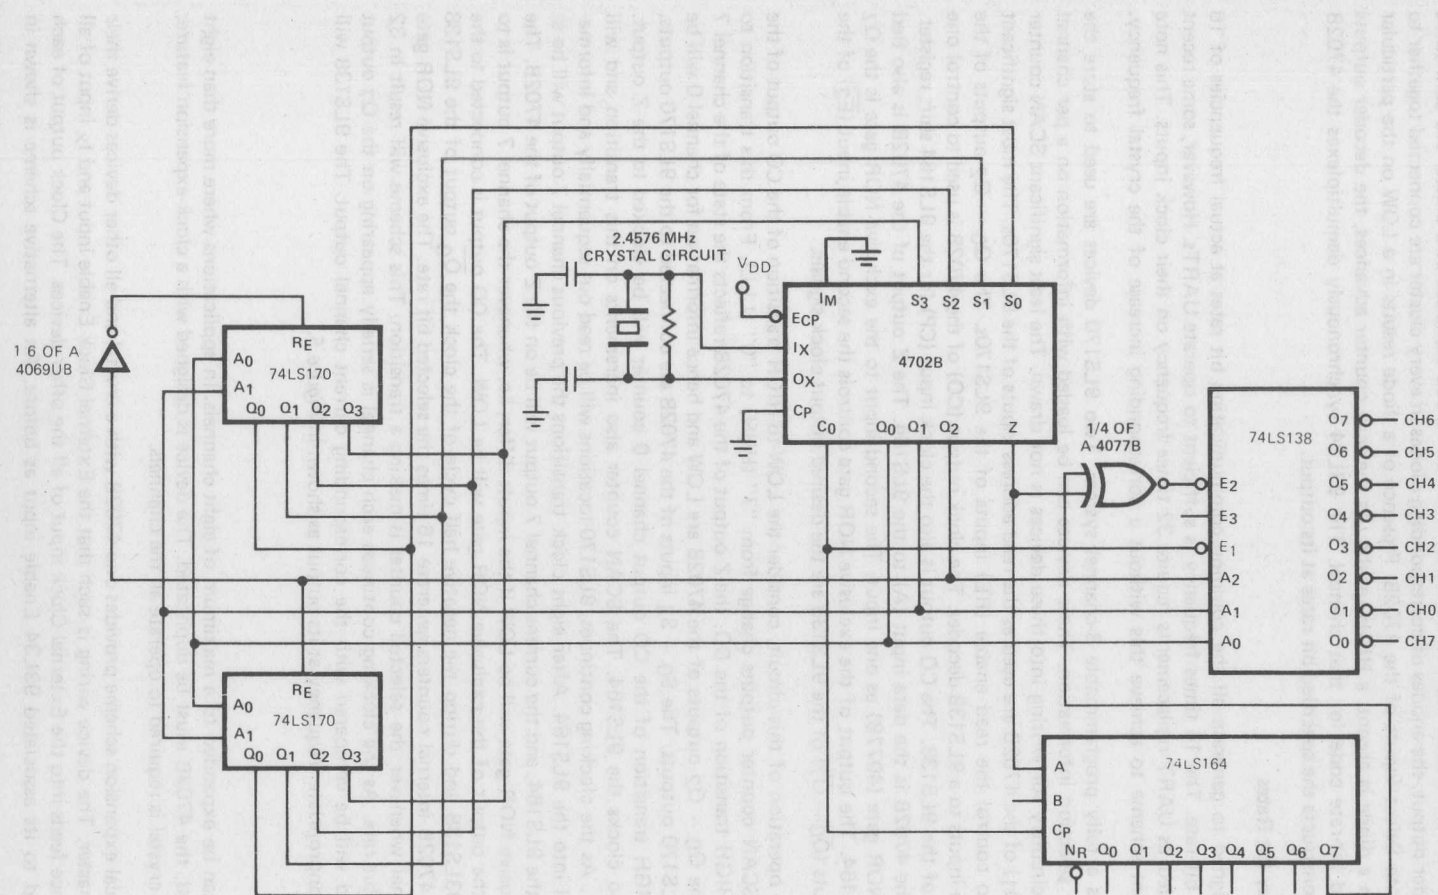

Fig. 5. A Fully Programmable 32 Times Frequency Bit Rate Generator System
Figure 5 illustrates a fully programmable 8-channel system. Two 9LS170 devices are used to store the channel frequency selection information. These devices can be loaded with information on a per channel basis. For clarity, circuitry for writing into these devices is not drawn. The least significant SCAN counter outputs (Q_0 and Q_1) of the 4702B are used as the read address inputs of the 9LS170s. The most significant bit (Q_2) is used to control the read enable (RE) inputs of the 9LS170s. The $Q_0 - Q_2$ outputs of the 4702B are also the inputs to a 9LS138 decoder. The clock output (CO) of the 4702B is used to control one enable input (\overline{E}_1) of the 9LS138. The CO output is also the clock input (CP) for the 9LS164 shift register. The Z output of the 4702B is the data input (A) to the 9LS164. The Z output of the 4702B is also tied into an exclusive NOR gate (4077B) as one input. The second input to the exclusive NOR gate is the Q_7 output of the 9LS164. The output of the exclusive NOR gate controls the second enable input (\overline{E}_2) of the 9LS138. The outputs ($\overline{O}_0 - \overline{O}_7$) of the 9LS138 are the desired output clock signals.
To understand the operation of this circuit, consider the LOW-to-HIGH transition of the CO output of the 4702B when the SCAN counter outputs change from "7" (HHH) to "0" (LLL). From this transition to the next LOW-to-HIGH transition of the CO, the Z output of the 4702B reflects the state of the channel 7 counter output. The $Q_0 - Q_2$ outputs of the 4702B are LOW and hence information for channel 0 will be available on the 9LS170 outputs. The $S_0 - S_3$ inputs of the 4702B are connected to the 9LS170 outputs. On the LOW-to-HIGH transition of the CO output channel 0 counter will be clocked to the Z output. This transition also clocks the 9LS164. The SCAN counter also increments on this transition and will point to channel 1. As the clocking continues, 9LS170 locations will be read out sequentially and information will be shifted into the 9LS164. After eight clock transitions the previous channel 7 output will be at the Q_7 output of the 9LS164, and the current channel 7 output will be on the Z output of the 4702B. The output of the exclusive NOR gate will be LOW if the inputs differ; i.e. whenever the channel 7 output is to make a transition the output of the exclusive NOR gate will be LOW. The CO output is connected to the \overline{E}_2 input of the 9LS138 and during the negative half cycle of the clock the \overline{O}_0 output of the 9LS138 will be LOW. The 4702B internal counters generate 16 times the selected bit rate. The exclusive NOR gate is generating a signal whenever the selected counter is making a transition. This scheme will result in 32 times the selected bit rate. As the clocking continues each channel is serially appearing on the Q_7 output of the 9LS164 and will be compared with the corresponding current channel output. The 9LS138 will then represent the appropriate frequency at its output as shown in Figure 5.